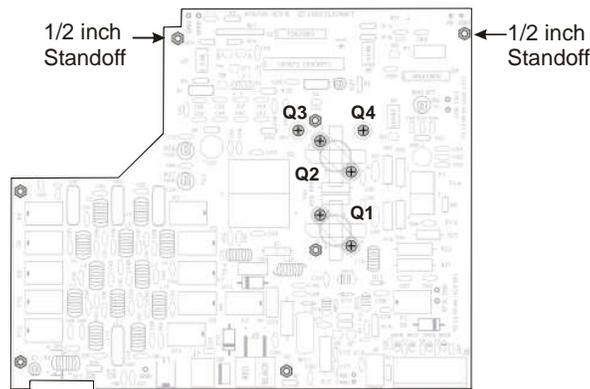

Figure 1. Removing the KPA100 PCB.
- Remove the seven hex standoffs and lock washers that secure the board to the heat sink. Two of the standoffs are near the center of the board (see Figure 1). *Do not lose the lock washers.*